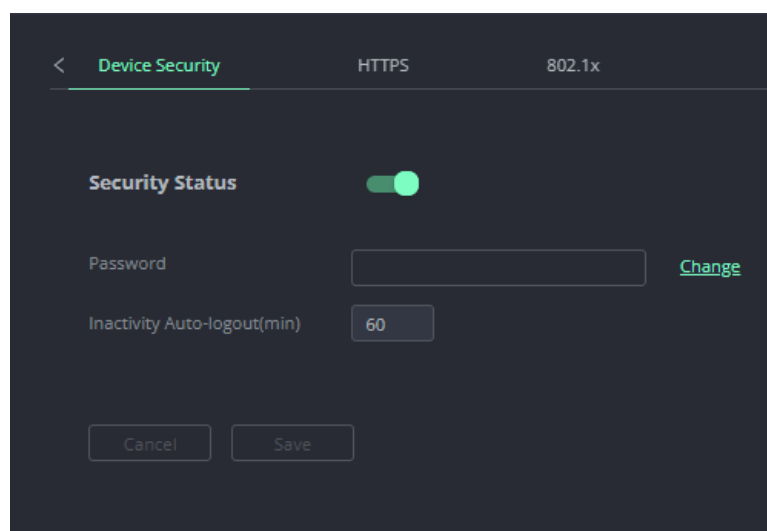

Figure 52: Security – Device Security Tab
2. Select the Device Security tab. The Security settings appears (Figure 52).
1. Go to the Security >Device Security (Figure 52).
1. Go to the Security page (Figure 52).
1. In the Navigation pane, click **Security**. The Device Security tab appears (Figure 52).